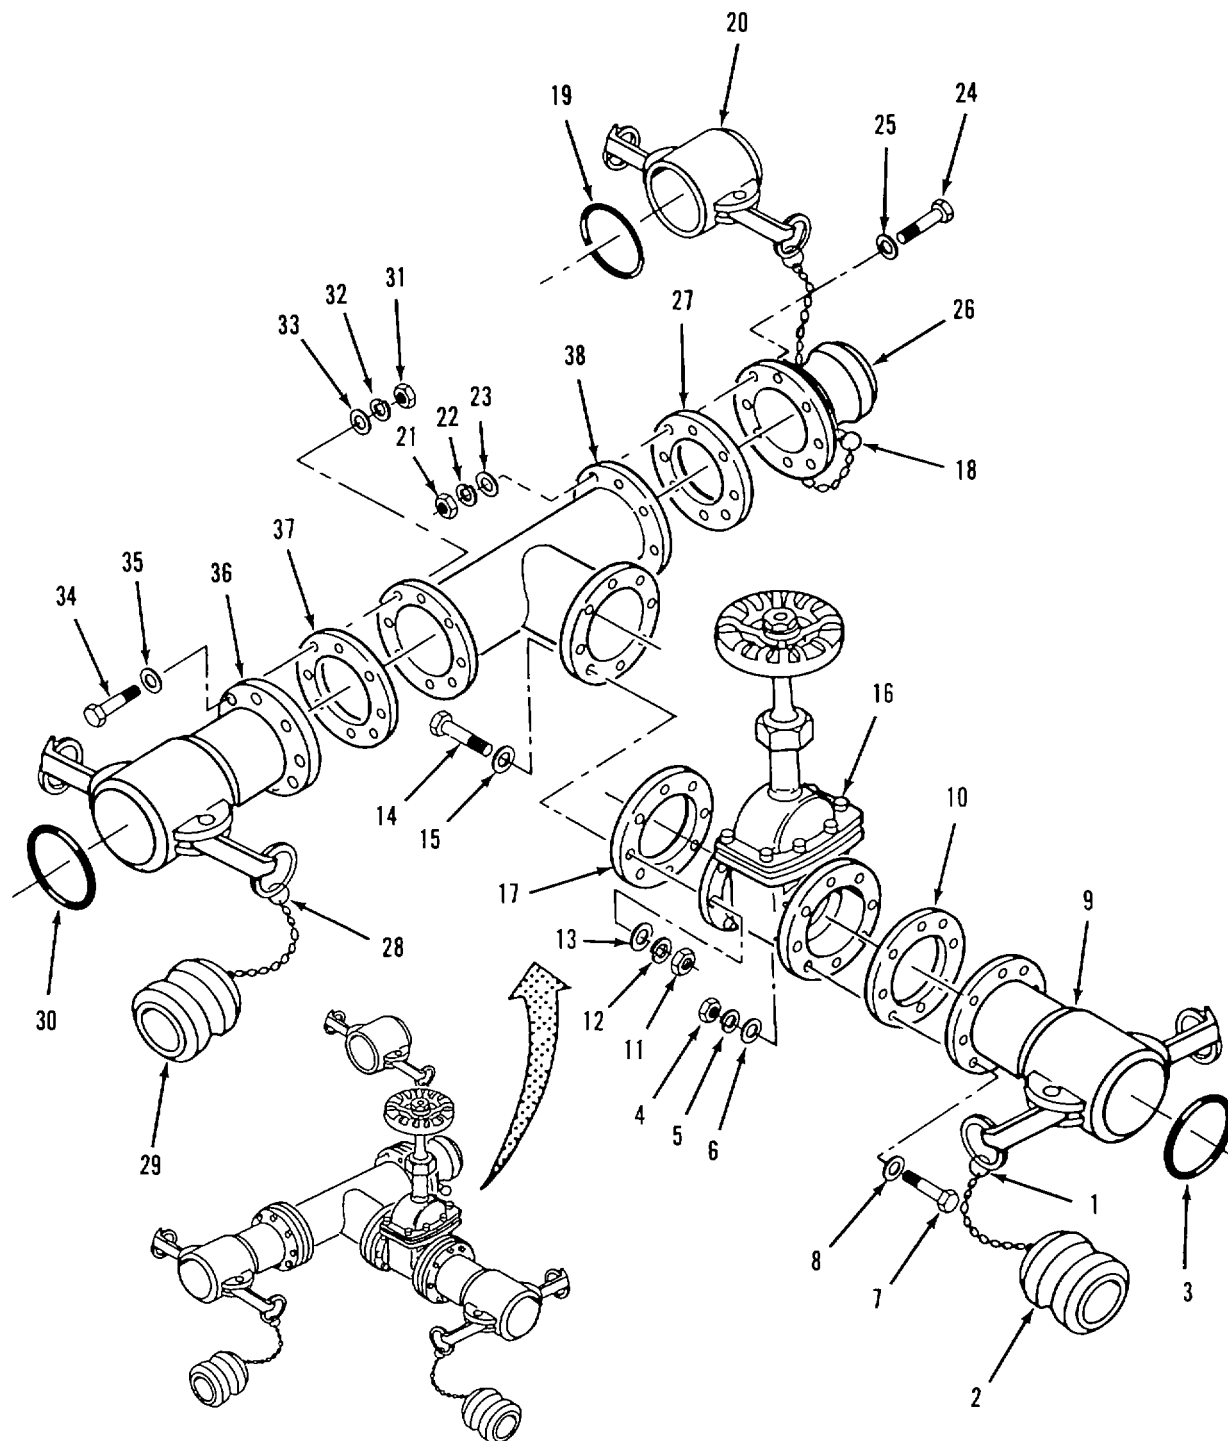

Figure 4-35. Tee and Gate Valve Assembly (9114-Y5) Repair.
- a. Disassembly. Refer to figure 4-35.
- (1) Disconnect ring (1) from female coupling (9) and remove plug (2).
- (1) Refer to para 4-31 to repair gate valve.
- (2) Replace defective components Do not reuse sealing components.
e. Assembly. Refer to figure 4-35.
- (1) Position gasket (37) and female coupling (36) on tee (38.)
- (2) Install eight flat washers (35), screws (34), flat washers (33) lockwashers (32) and nuts (31)